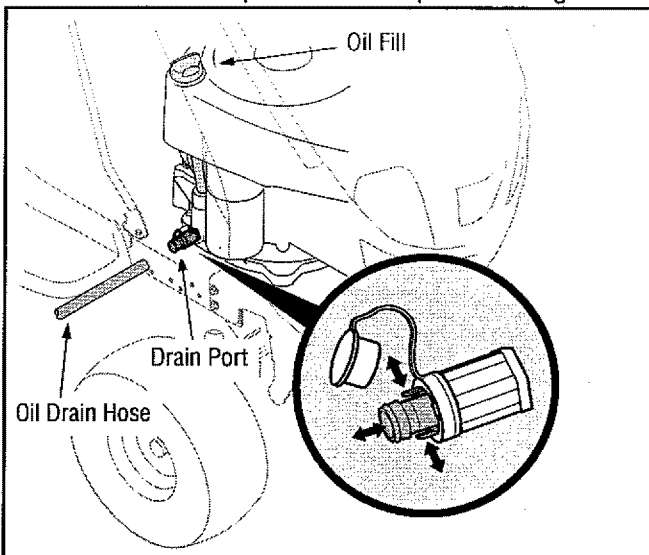

Figure 16
1. Clean the area around the oil fill cap/dipstick to prevent debris from entering the crankcase. Refer to Figure 16.
1. Pop open the protective cap on the end of the oil drain valve to expose the drain port. See Figure 16.